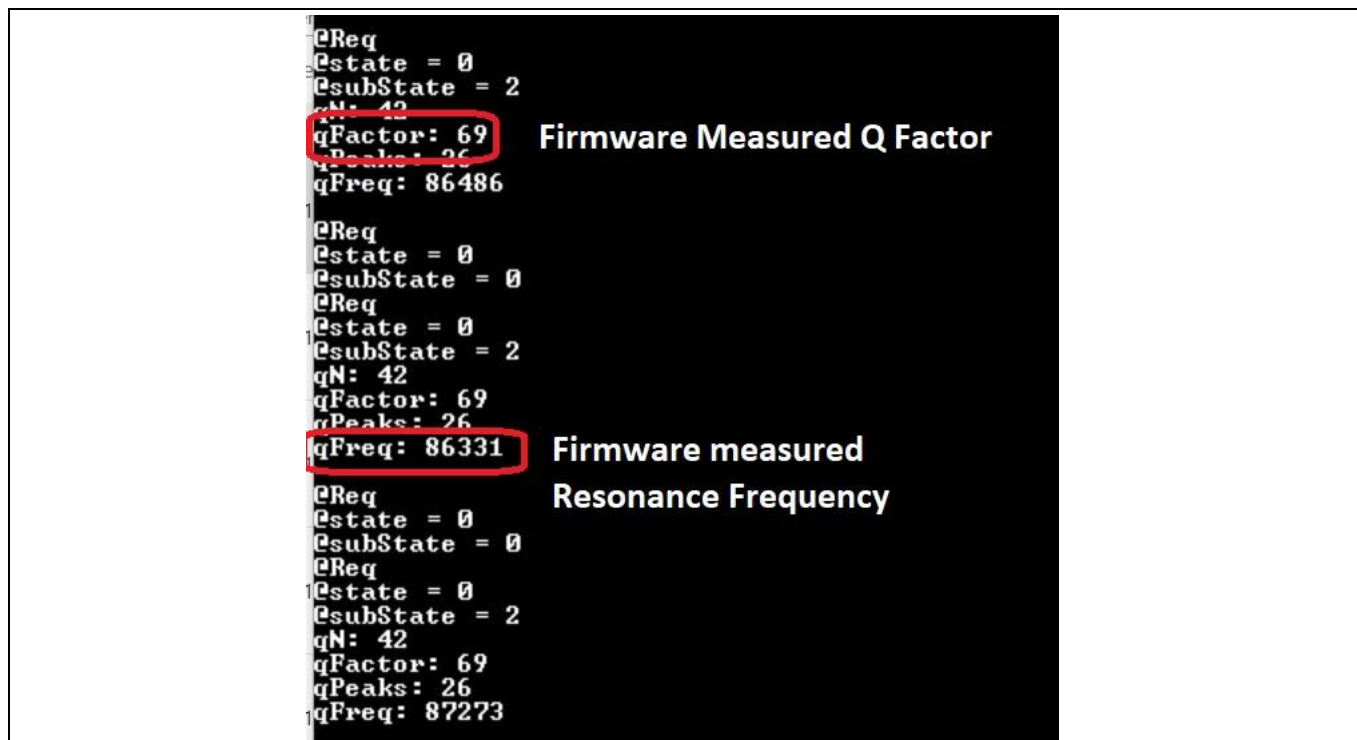

Figure 16 UART logs for receiver reported and WLC power transmitter measured resonance frequency
The process involves capturing the measured resonance frequency values from the UART logs (as shown in Figure 16) or alternatively use the digital signal oscilloscope or LCR Meter [\[7\]](#). This section elaborates on using system measurements available from the UART logs as shown below:
- Wait for two consecutive CE packets with 0 value (see Figure 16). Record the PTx (transmitter power) and PRx (reported receiver power) values from the UART debug log to the supporting document.